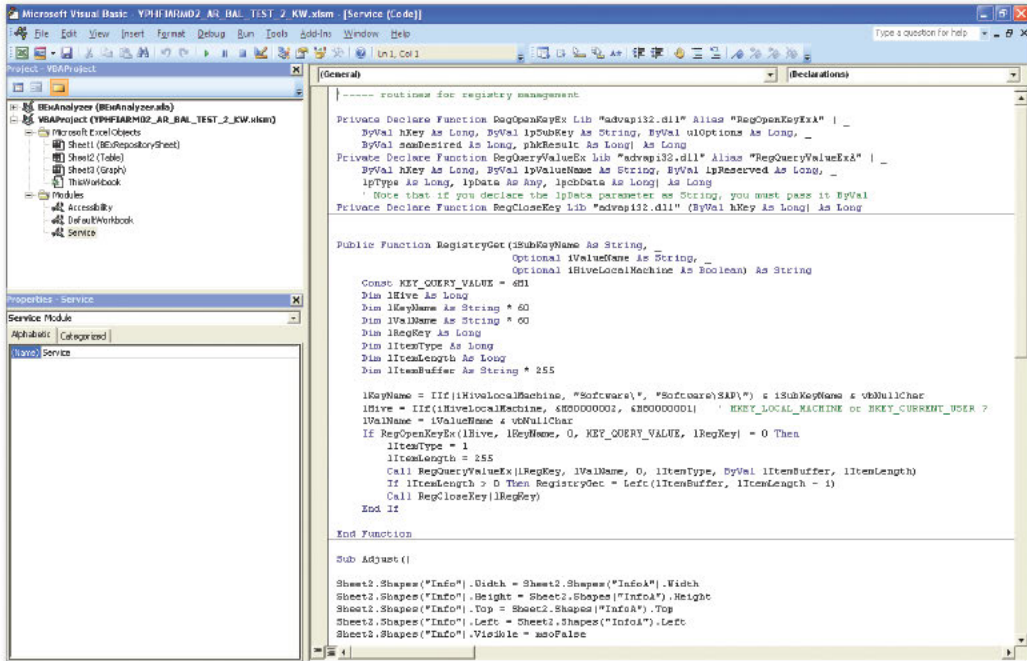

Figure 1 Opening the VBA Editor
1. Open up an existing BEx query in Analyzer, and press **Alt** + **F11** to go into the VBA editor as shown in Figure 1.